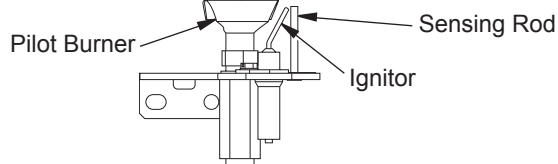

Figure 43 - Pilot
1. Pull ember material apart into pieces no larger than a dime. Place these pieces loosely and sparingly directly onto the exposed front section of the burner (see Figure 43). This will create the glowing ember appearance as the flame touches the ember material. Do not block air slots by using too much ember material in one area. It is not necessary to use all of the ember material provided.